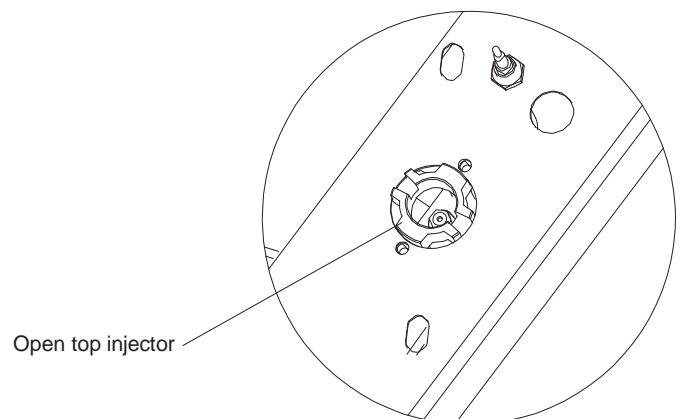

Figure 8
3.1.1 Open Top Burners - To Replace Injector (Figure 8)